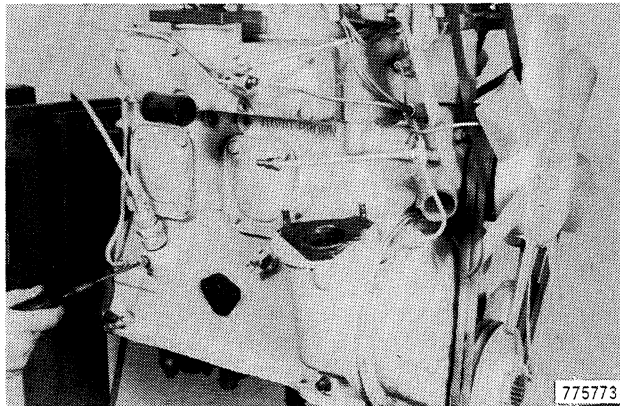

Figure 27
2. Loosen the retaining screw for the tachometer drive, Figure 27.